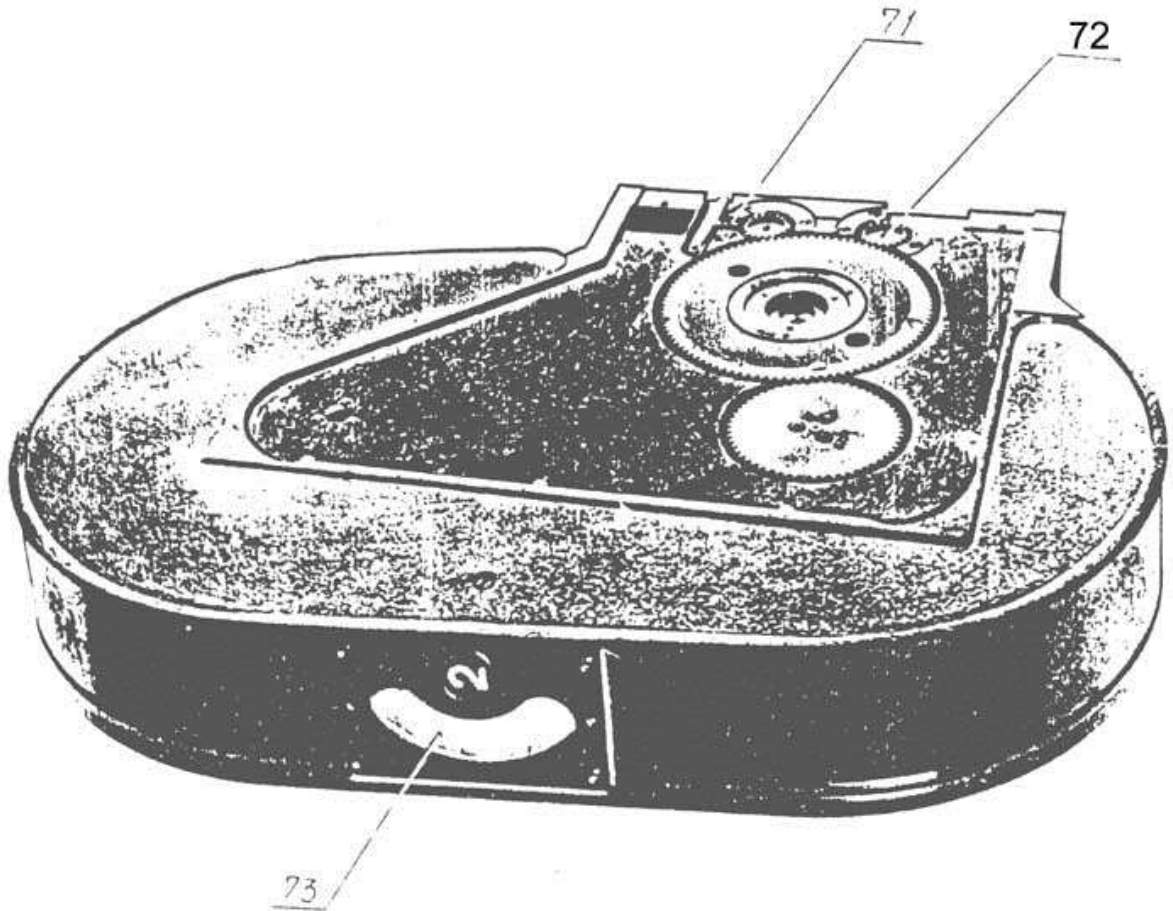

Figure 11
For preventing of acidental film unwinding, the mag mechanism is automatically blocked by a latch (71) (figure 11). When a mag is installed into the camera, the latch is shifted, and mechanism being released.